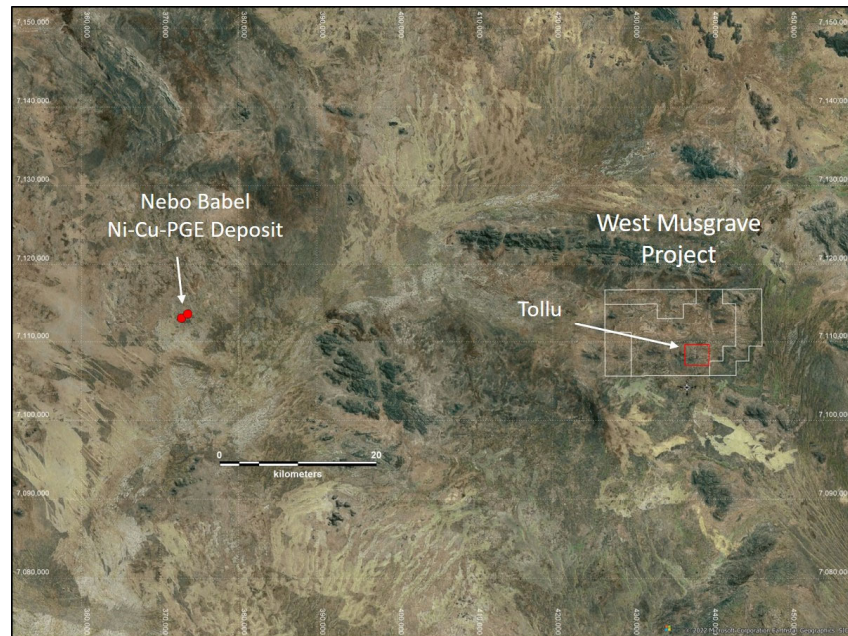

Figure 3: Location of the West Musgrave Project in relation to the world-class Nebo-Babel Ni-Cu-PGE deposit.
- Returned assay results from 2022 reverse circulation (RC) drilling have for the first time confirmed the presence of mafic-ultramafic nickel source target rocks on Redstone's West Musgrave Project.
- The discovery of mafic-ultramafic intrusions on the West Musgrave Project is highly significant as these rocks are a potential host and/or source rocks for nickel (Ni), copper (Cu), cobalt (Co) or platinum group element (PGE) mineralisation such as that of the now BHP owned world class Nebo Babel Ni-Cu-Co-PGE Deposit situated only 40km to the west of the Project (see **Figure 3**), and IGO Ltd's Nova-Bollinger Deposit in the Fraser Range.
- This is the first time a potential Ni-Cu-Co-PGE host or source rocks have been intersected on Redstone's West Musgrave Project, which significantly upgrades the Project for Ni-Cu-Co-PGE prospectivity, especially considering the western boundary of the Project area is only 40km east of the now BHP owned world class Nebo Babel Ni-Cu-Co-PGE deposit (see **Figure 3**).
Redstone have been targeting mafic-ultramafic intrusions with Norite affinity outside the area of their Tollu Cu vein deposit (**Tollu**), being the specific purpose of much of the 2021-22 RC drilling campaigns. The reason for targeting such rock type is that they are potential hosts and/or source rocks for Ni-Cu-PGE \pm Co mineralisation. BHP's world class Ni-Cu-Co-PGE Nebo Babel deposit is associated with Gabbro-Norite intrusions, and which is located in the same geological province only 40km from the western boundary of Redstone's West Musgrave Project (Refer to **Figure 3**).
The Musgrave Region in Western Australia is interpreted as an ancient intracontinental rift, the ideal setting for mantle related mafic-ultramafic igneous intrusions and due to its remoteness has been relatively underexplored to date despite the discovery of the world class Nebo Babel Deposit, located only 40km west of the Company's West Musgrave Project (Refer to **Figure 3**). Redstone's West Musgrave Project is also underexplored, with very limited exploration within the approximately 210 square km project area beyond the high grade Tollu Cu deposit. It is therefore significant that Redstone have successfully proven the presence of the mafic-ultramafic target rocks on their project early in their exploration efforts beyond Tollu. Not only is this confirmation of the prospectivity for Ni-Cu-PGE \pm Co mineralisation on the Project but also a potential explanation for a source of the high grade Cu at Tollu.